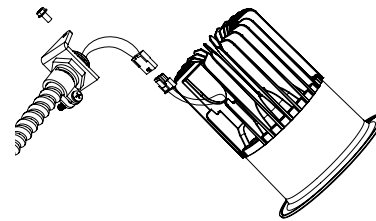

FIGURE 6
- 2. Fasten conduit adapter to trim housing using the screw provided (see Figure 6).
2. Disconnect conduit adapter by loosening screw. (See Figure 6)
4. Remove heatsink from lower housing by removing (3) screws and lifting off.